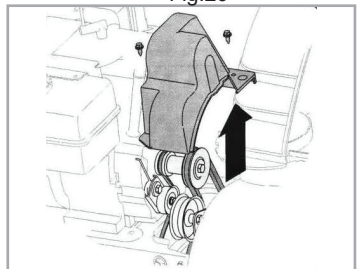

Fig.27
1. Remove the belt cover in the front of the engine by removing the two self-tapping screws. See Figure 27.